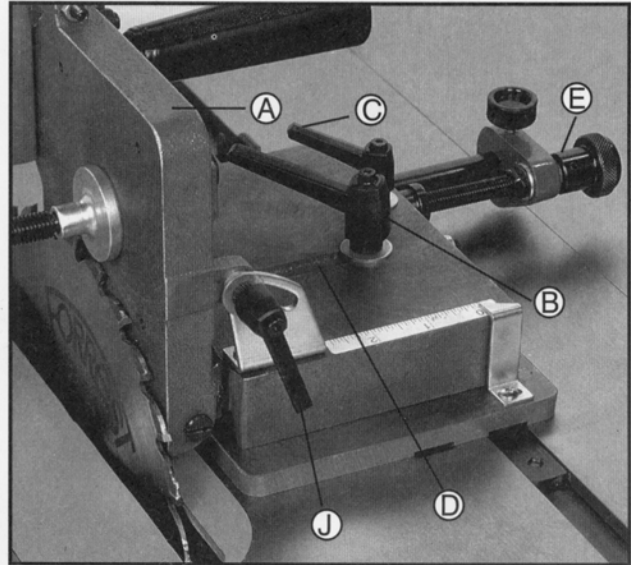
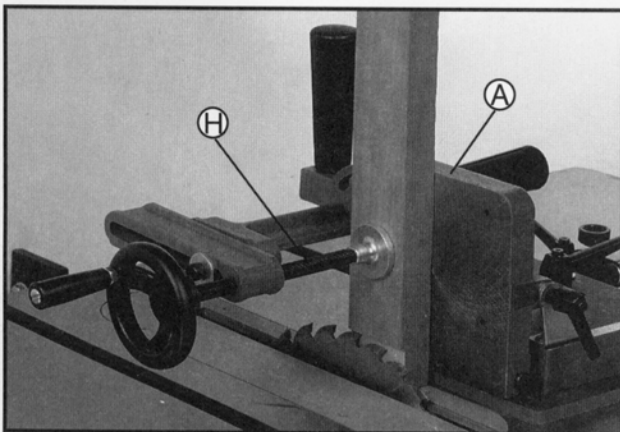

FIGURE 11
FIGURE 13
1. For rapid adjustment of the work support plate (A) figure 11 toward or away from the saw blade. loosen levers (B) and (C) and move jig (D) as necessary . Tighten levers (B) and (C) after rapid adjustment is made.
2. Fine adjustment of the work support plate (A) figure 11. can be accomplished by loosening lever (B) and rotating knob (E) until plate (A) is at the desired position. Tighten lever (B) figure 11 after fine adjustment is made.
3. To tilt the vertical work support plate (A) figure 11 loosen lock lever (J). tilt vertical work support plate to the desired angle and tighten lock lever (J).
4. To adjust backstop (F) for angle tenons. Loosen lock lever (G). adjust backstop (F) to the desired angle and tighten lever (G).
5. Figure 13 illustrates a typical straight tenon being cut.
**IMPORTANT:** Work should be clamped to work support plate (A) with clamp (H) at all times and both hands should be on operating handles doing operation.